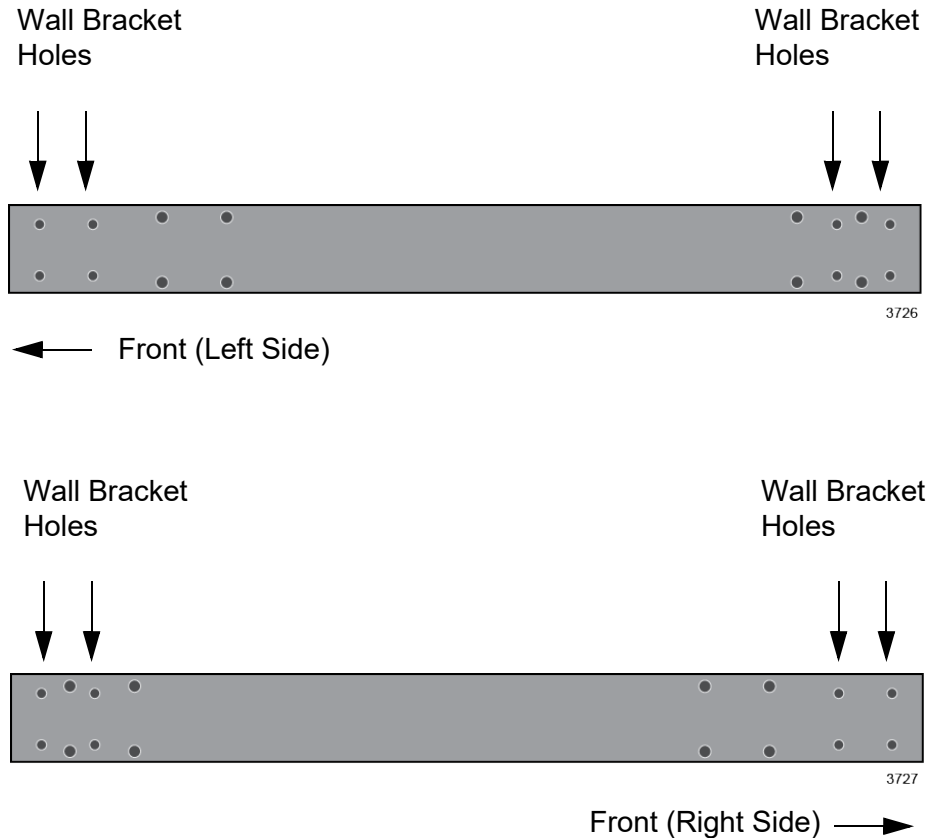

Figure 49. Mounting Holes
The sides of the switch have two sets of holes. One set is for installing the switch on a wall with the brackets and the other set is for the AT-RKMT-SL01 Rack Mounting Kit. The holes for the brackets are identified in Figure 49.
2. Install the four brackets with sixteen screws that come with the switch to the sides of the unit, as shown in Figure 48 on page 104 and Figure 49 on page 105.